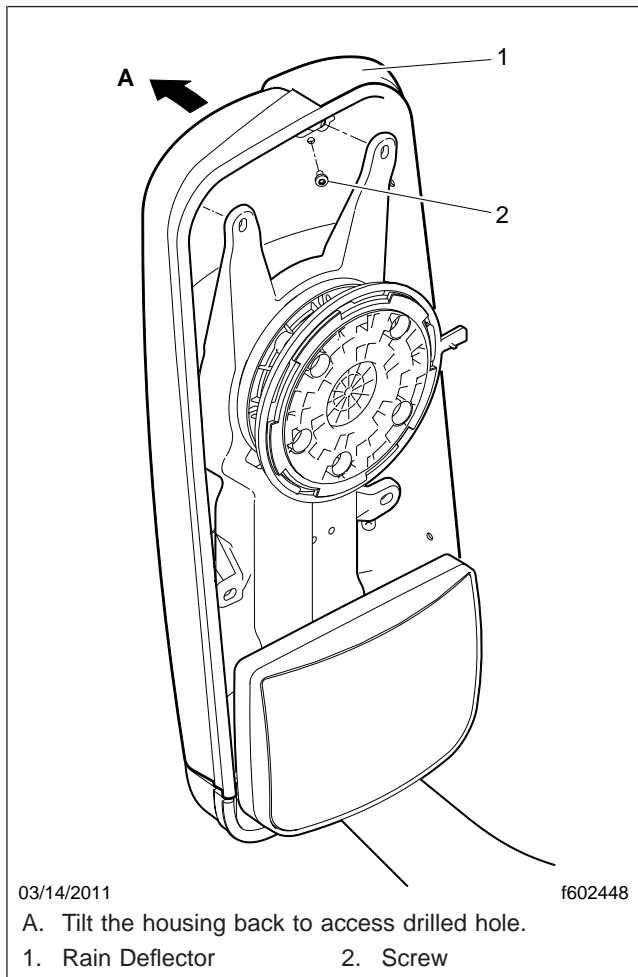

Fig. 5, Installing Top Outboard Screw
7. Tilt the back cover backward in order to access the hole drilled at the upper inboard corner. Install the top outboard self-tapping screw loosely in the back cover. See Fig. 5.